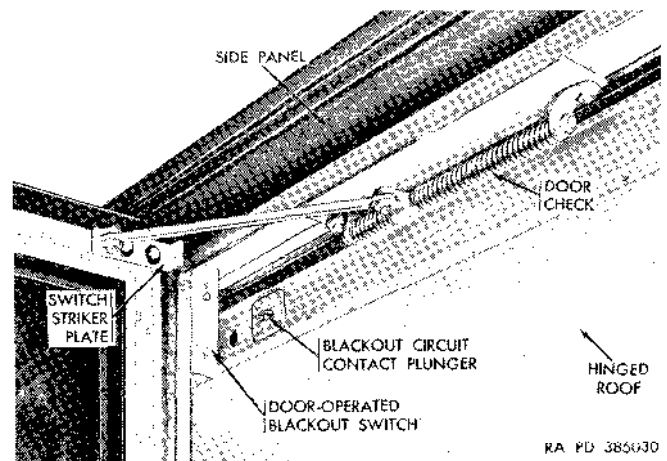

Figure 2-233. Hinged roof-operated blackout switch.
(10) *Hinged roof-operated plungers and plates.* Blackout circuit contact plungers (fig. 2-233) are located in the edges of the hinged roof sections so as to align with striker plates in the mating edges of the hinged floor sections and side panels. The plungers and mating plates maintain continuity of the blackout circuits when the van is in both the expanded and retracted positions.